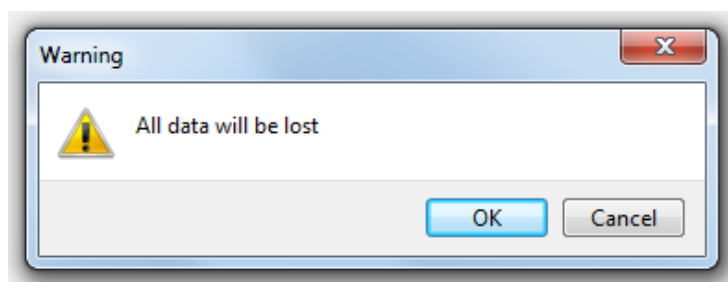

Fig. 18 Data loss warning.
- Select: **OK** to start uploading of the update (Fig. 18).